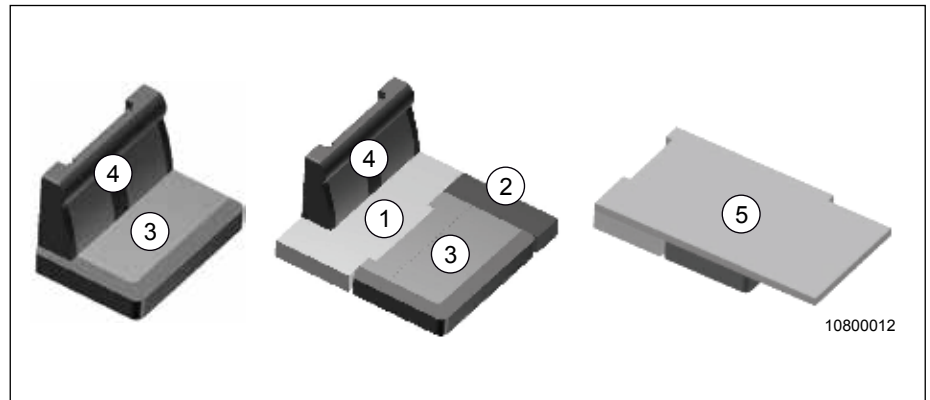

Fig. 21 Converting the seat padding
1. Remove the seat padding (Fig. 21, Pos 3) and replace by the larger additional padding (Fig. 21, Pos 1).
2. Insert the seat padding (Fig. 21, Pos 3) in front of the additional padding (Fig. 21, Pos 1).
3. Next to the seat padding (Fig. 21, Pos 3), insert the small additional padding (Fig. 21, Pos 2).
4. As an option, remove the back padding (Fig. 21, Pos. 4) and stow away safely.
5. Place the topper (Fig. 21, Pos 5) over the padding and align.
→ The back padding (Fig. 21, Pos 4) does not have to be removed for the conversion and can remain mounted.
- Before inserting the topper (Fig. 21, Pos 5) the head restraints must be moved up.
- With mounted back padding (Fig. 21, Pos 4), push the topper (Fig. 21, Pos 5) under the back padding.